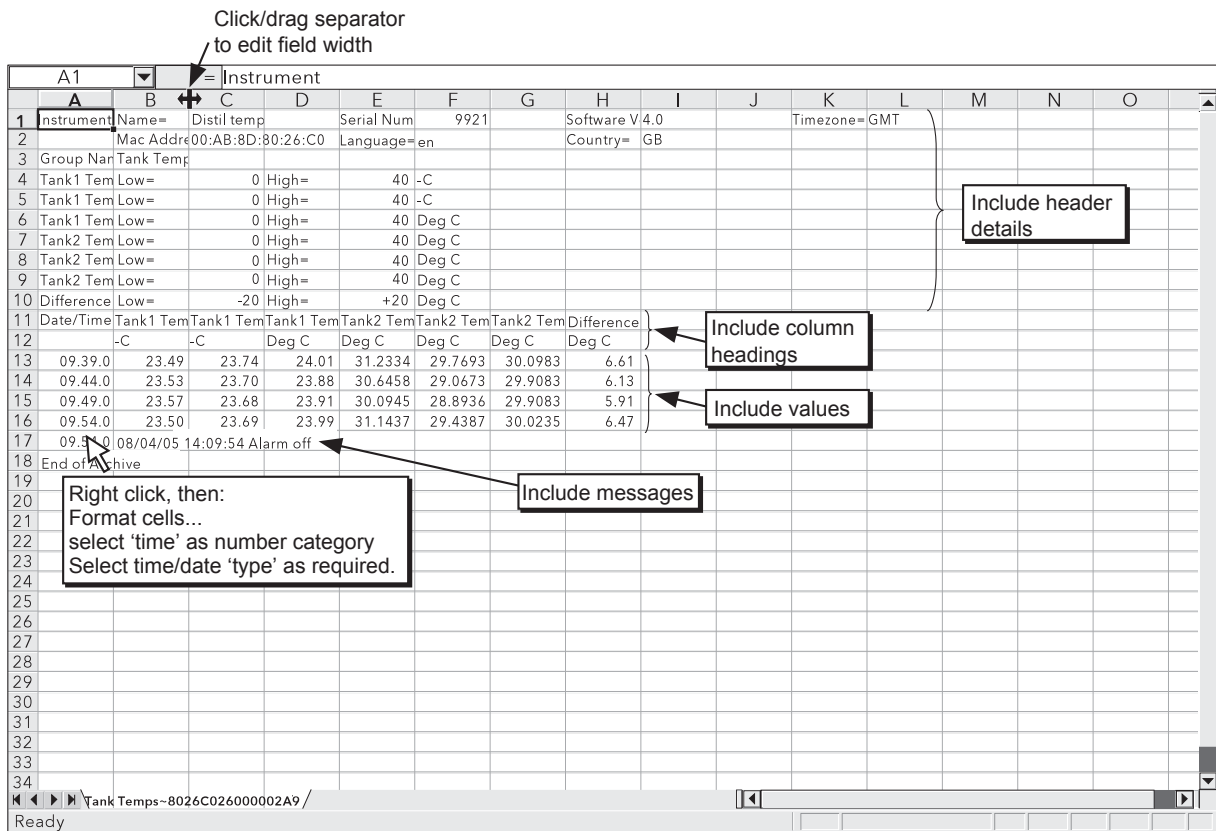

Figure 61 CSV data example
**CSV Values** Appears only if 'File Format' is set to 'CSV' or 'Both'. If 'Yes' is selected, then process values are included in the file (see Figure 61 for details).
**CSV Messages** Appears only if 'File Format' is set to 'CSV' or 'Both'. If 'Yes' is selected, then messages are included in the file (see Figure 61 for details).
**CSV Headers** Appears only if 'File Format' is set to 'CSV' or 'Both'. If 'Yes' is selected, then Header details are included in the file (see Figure 61 for details).
**CSV Headings** Appears only if 'File Format' is set to 'CSV' or 'Both'. If 'Yes' is selected, then column headers are included in the file (see Figure 61 for details).